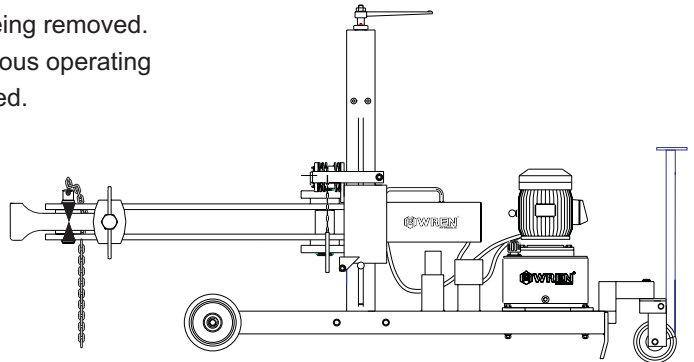

FIGURE 1
3. When not in use, store extension adapters on the puller cart as shown in Figure 1